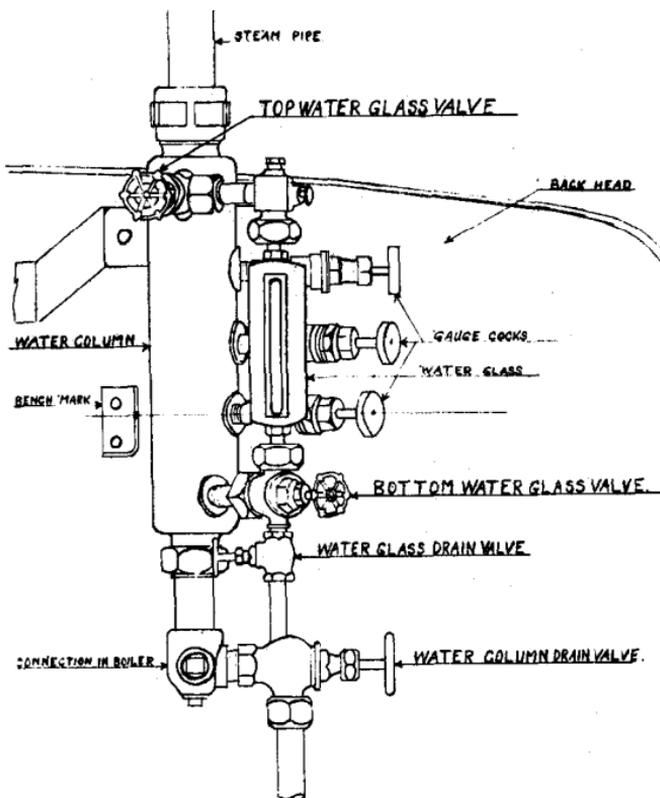

FIG. 7-ARRANGEMENT of WATER COLUMN.
**Gauge Cocks**—The gauge cocks are valves screwed into the back head (Fig. 6, page 13) or water column (Fig. 7, page 14) for the purpose of ascertaining the water level in the boiler. This is determined by the discharge of water or steam from the drip pipes attached to the gauge cocks. The difference between water and steam can only be determined by looking and seeing what comes out of the drip pipes. Never trust to sound.
**Water Glass**—The water glass is a glass gauge connected at both ends to either the back head (Fig 6, page 13) or the water column (Fig. 7, page 14). The bottom or lowest reading of the glass is on the same